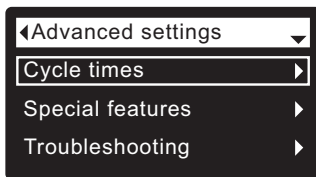

FIG. 72
3. Press the SELECT (O) button to display the Advanced settings menu (See Figure 72).